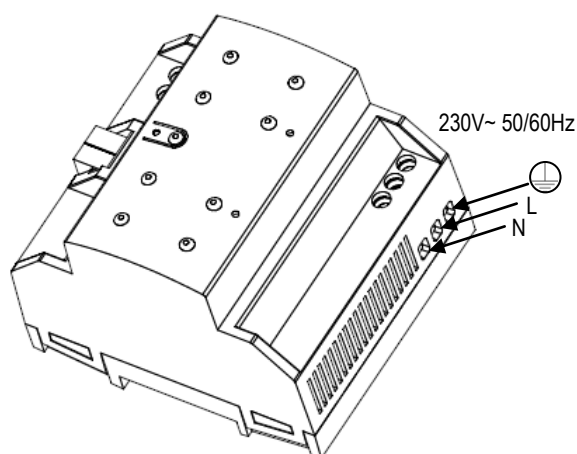

Figure 2: ZPS320MPA230 installation and connection
- Main power must be connected to L, N and ground terminals, in accordance with the schematic represented in figure 2.